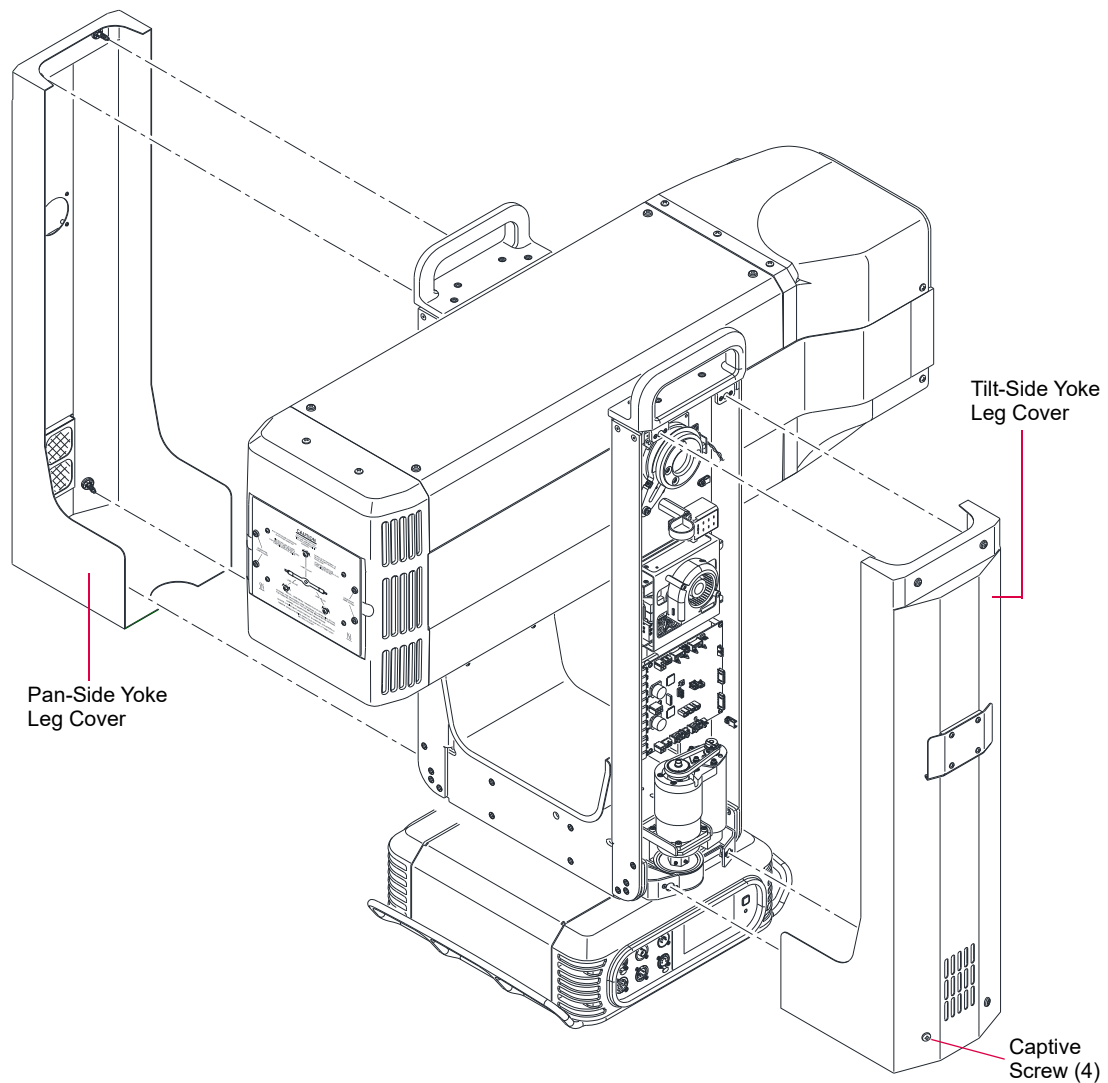

Figure 3-6: Removing Yoke Leg Covers
- Step 1. At yoke leg cover, loosen four captive screws (**Figure 3-6**).